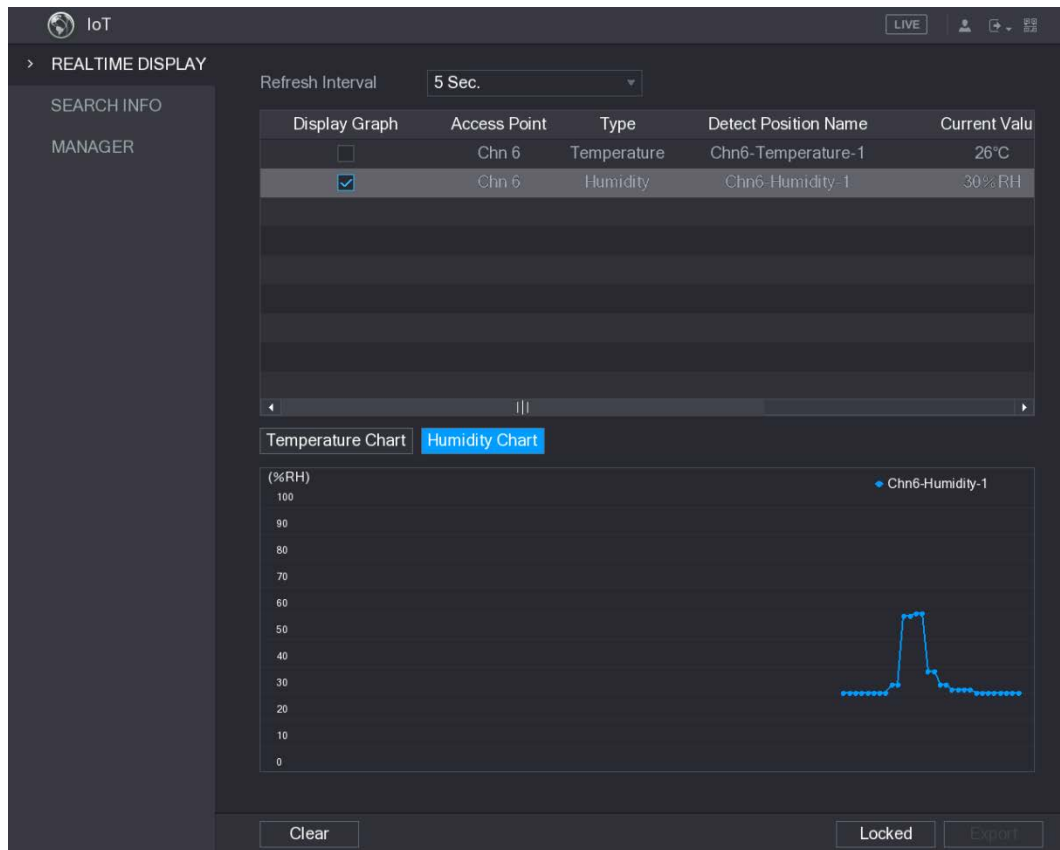

Figure 5-201
Step 4 On the **Realtime Display** interface, click the **Humidity** tab. See Figure 5-201.